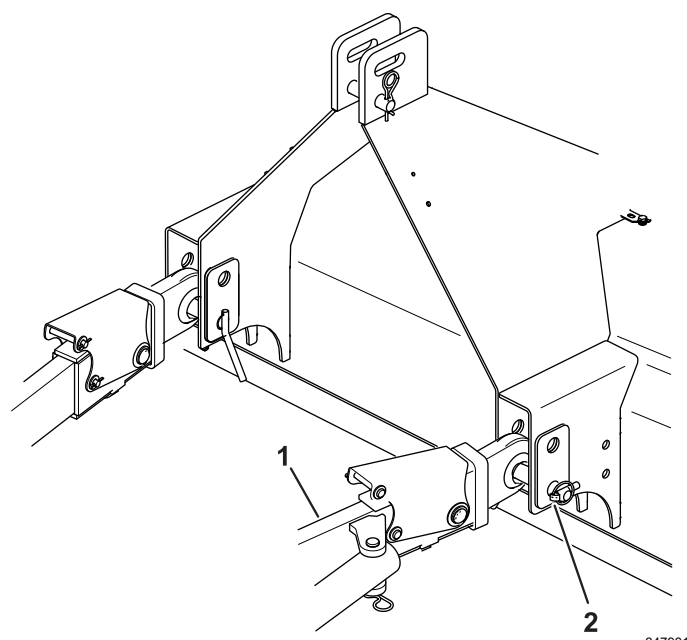

Figure 9
5. Insert the right and left lower link arms onto the hitch pins (Figure 9).